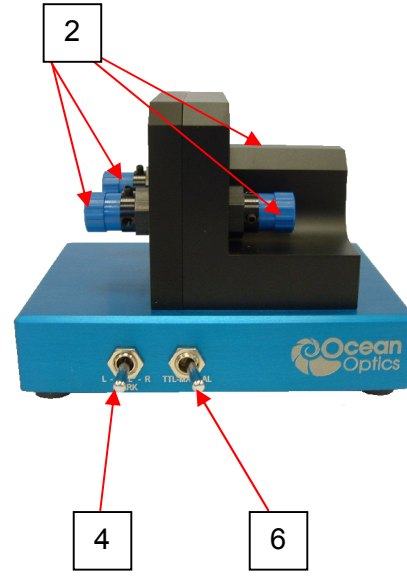

Figure 2: Front of FOS Unit
1. Move the shutter switch (4 – Figure 2) into the OPEN position to open the shutter.
5. Move the SMA connector (2 – Figure 2) to adjust the optics of the FOS.